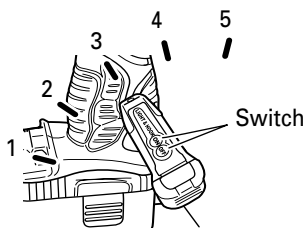

Fig. 9
- (2) The direction of hook positions 1 - 5. (Fig. 9)